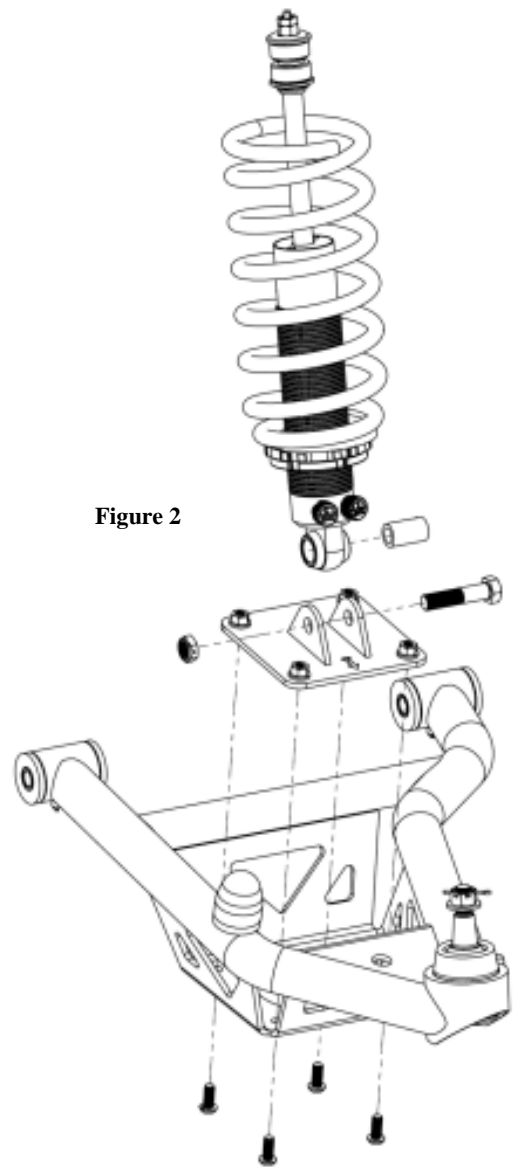

Figure 2
1. Lubricate and install the $\frac{3}{4}$ " O.D. sleeve (included with the control arms) into the lower shock eye bushing and install the adaptor plate on the shock using the $2\frac{1}{4}$ " x $\frac{1}{2}$ " bolt and $\frac{1}{2}$ " locking nut and tighten. Install the adaptor plate with the arrow pointing towards the lower ball joint if marked. See **Figure 2**.